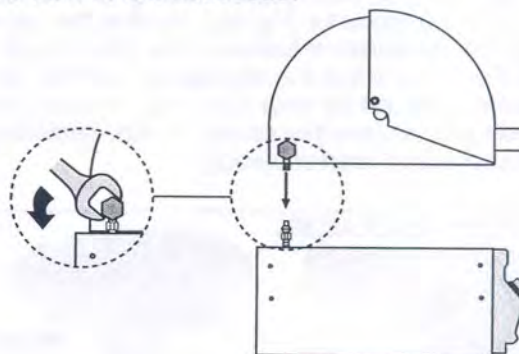

Figure 6
b. Carefully place the oven on the frame so the Backburner gas supply tubes fit into the lid stop elbows on the oven (Figure 6). The front lip of the oven may sit on the face of the Barbecue.
d. Use a wrench and turn the elbow (lid stop) to push the oven to the back of the Barbecue frame (Figure 6).